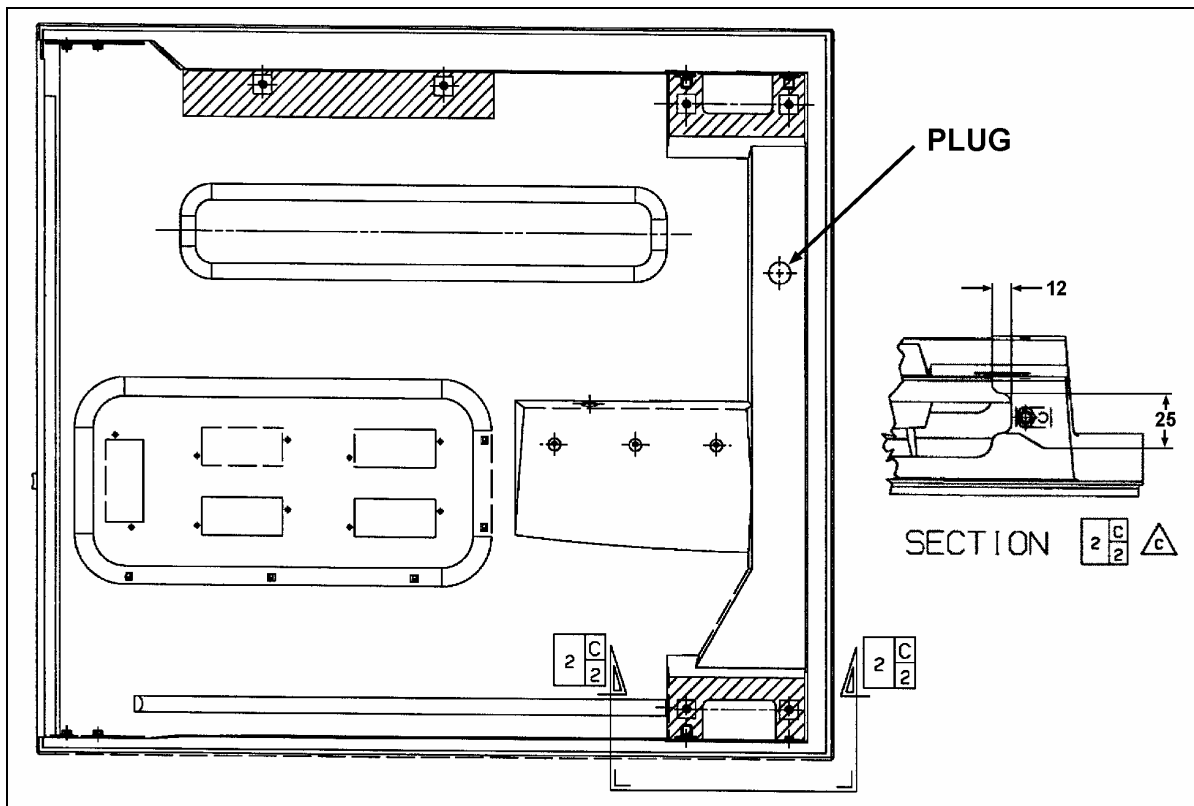

FIGURE 2: ENLARGEMENT OF OPENING
4. Grind or file the opening as per dimensions indicated in figure 2. Make sure plug is in place to prevent dirt from disturbing mechanism, glue if required (refer to figure 2).